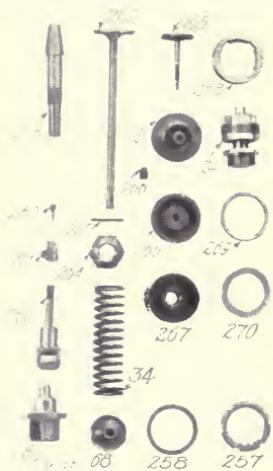

Fig. 58.
**52. Intake and exhaust valves and their operating parts; priming and relief valves; cylinder plugs, etc. (See Figs. 58 and 59.)**